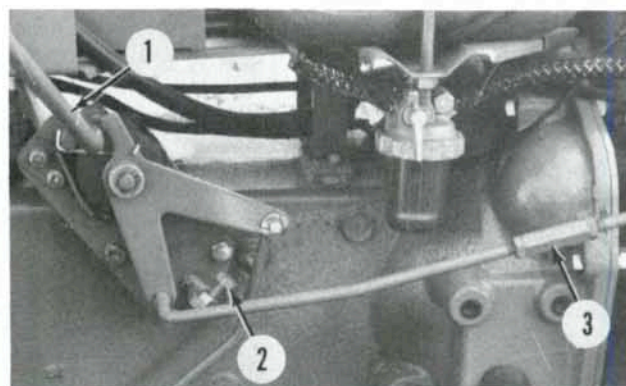

Fig. 125 - View of throttle linkage typical of 1100, 1110, 1200, 1210 and 1300 models. Refer to text for adjustment procedure.
65. To adjust engine speed, first start engine and operate until warm. Move throttle lever to slow idle detent position. Engine speed should be 750-850 rpm. If low idle speed is incorrect, loosen locknuts and turn throttle control rod turnbuckle (3-Fig. 125) as required until correct speed is obtained.
loosen locknut and turn stop bolt (Fig. 125) as required until correct maximum speed is obtained.